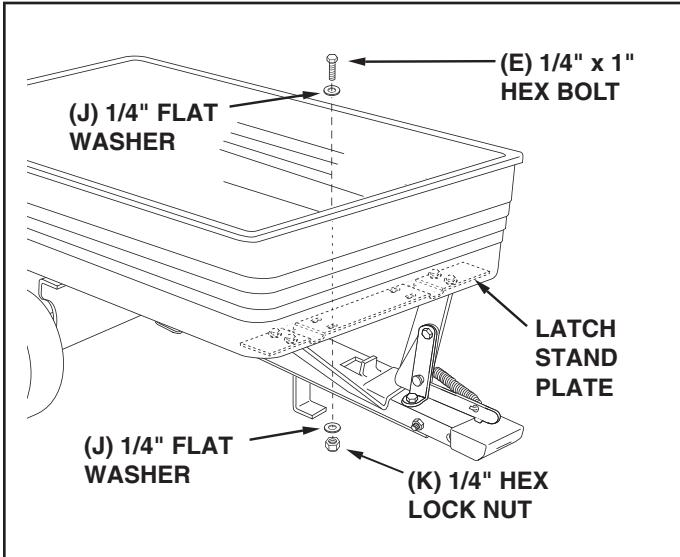

FIGURE 9
15. Insert four $1/4" \times 1"$ hex bolts (E) with $1/4"$ flat washers (J) down through the tray and the inside holes in the latch stand plate. Secure the bolts with four $1/4"$ flat washers (J) and $1/4"$ hex lock nuts (K). **Do not tighten yet.** See figure 9.